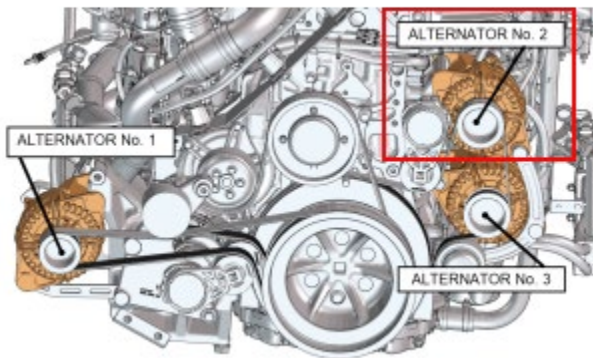

Figure 1: First alternator to be checked
1. Locate the positive alternator cable at the back of the upper RH alternator (alternator #2 Figure 1 & 2).